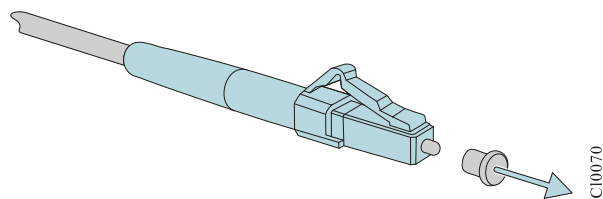

FIGURE 4-10 REMOVE FIBER DUST CONNECTOR
- Step 2: Remove the dust cap of the fiber connector, as shown in Figure 4-10.